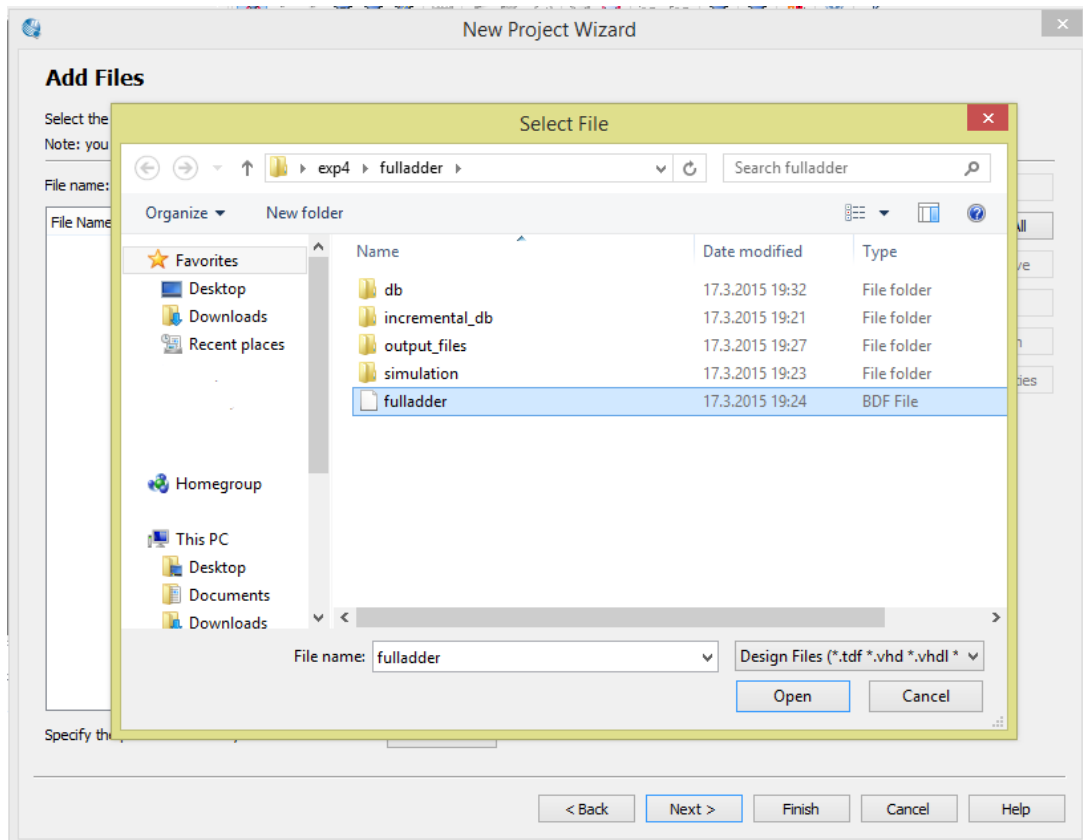

Figure 4.5 Adding symbol file to the new project
11. When the **Add Files** dialog box is opened, click the **Browse** button to locate the working directory for the lower-level project as it's shown on Figure 4.5. We will now identify the files to be included in this top-level project.